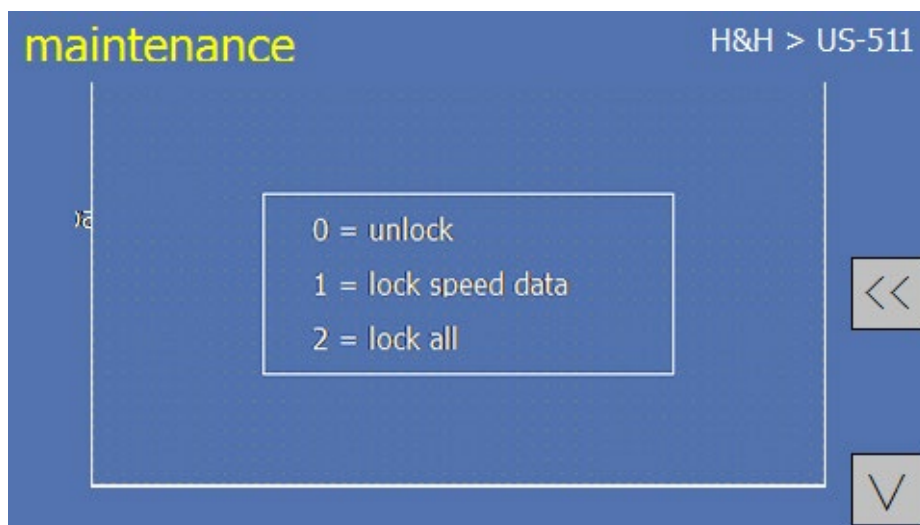

Figure 12 Maintenance Page-2
1. Parameter lock, different numbers represent different meanings. For details, press “?” to view the corresponding numbers’ meanings, as shown in figure 12 “Maintenance Page-2”.